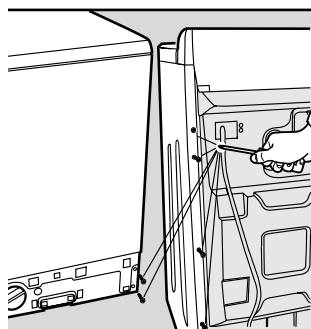

Fig. 1
- 2.** Remove the appliance base and unscrew the 2 screws on the bottom right-hand side, then unscrew the 6 rear screws, on the left-hand side, and remove the side panel by tipping it slightly outwards and pulling it out. (fig. 1 and 2).